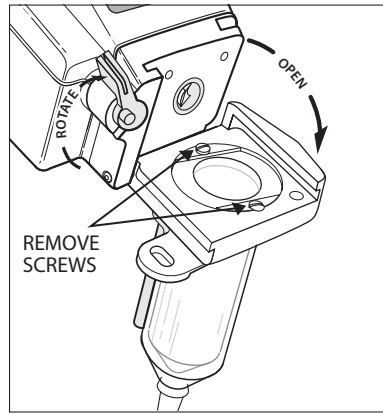

Figure 6-11-2 Replacing the 125 mL Pressure Sleeve
2. Hold the syringe assembly to allow an unobstructed view of the underside of the faceplate. Remove and retain the two screws as shown in Figure 6-11-2.